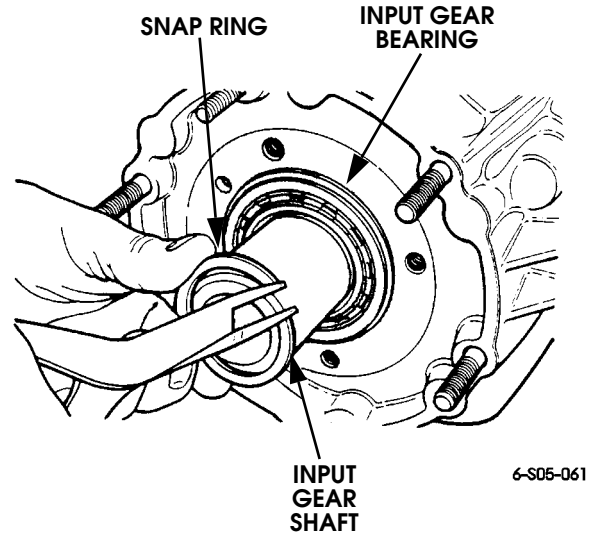

Figure 5-138: Input Gear Snap Ring Installation
4. Install input gear snap ring (Figure 5-138).